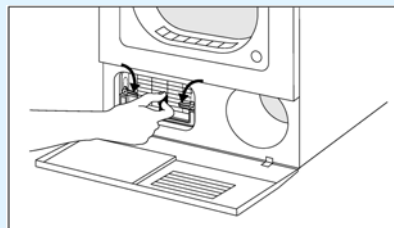

Figure 7.
5. Turn the retainers on each side of the heat exchanger towards each other, in the direction of the arrows as shown in Figure 7.